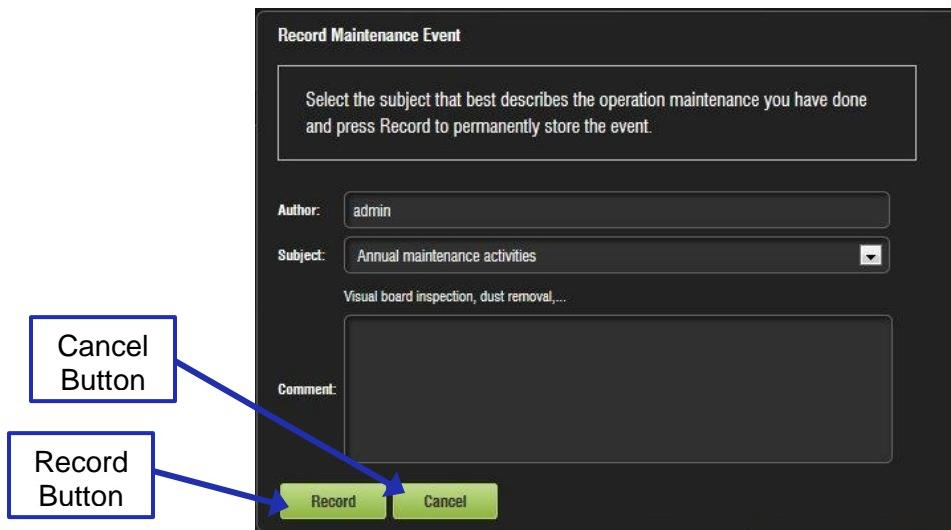

Figure 166: Record Maintenance Window
- The following window will appear (Figure 166):
- Click the Record button or Cancel to cancel the operation (Figure 166).